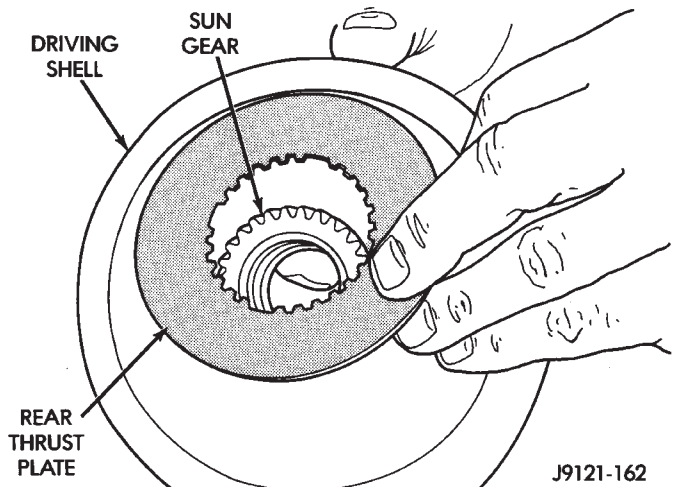

Fig. 90 Installing Driving Shell Rear Thrust Plate
(9) Hold sun gear in place and install thrust plate over sun gear at rear of driving shell (Fig. 90).